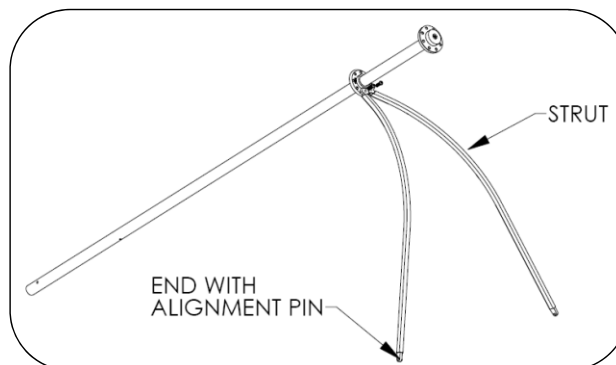

Fig. 3a – Install struts
4. Attach two struts to strut ring. See Figs 3a and 3b.